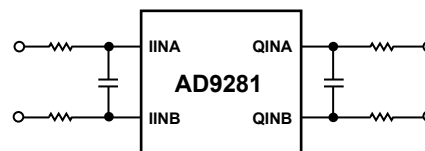
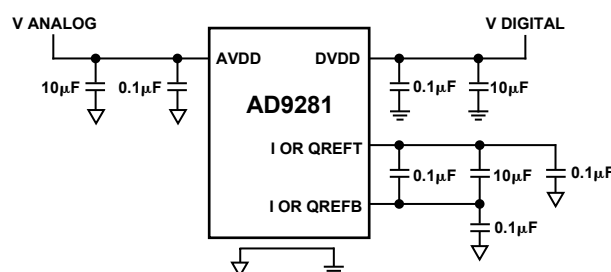

Figure 20. Input Loading
Figure 21. Reference and Power Supply Decoupling
**Crosstalk:** The internal layout of the AD9281, as well as its pinout, was configured to minimize the crosstalk between the two input signals. Users wishing to minimize high frequency crosstalk should take care to provide the best possible decoupling for input pins (see Figure 20). R and C values will make a pole dependant on antialiasing requirements. Decoupling is also required on reference pins and power supplies (see Figure 21).